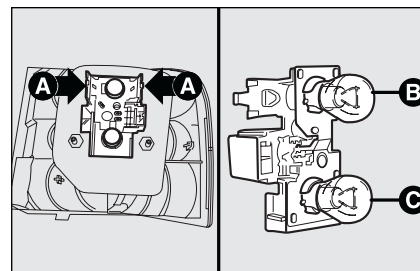

fig. 38
- ☐ push the bulb holder side tabs **A**-fig. 38 inwards to remove it;